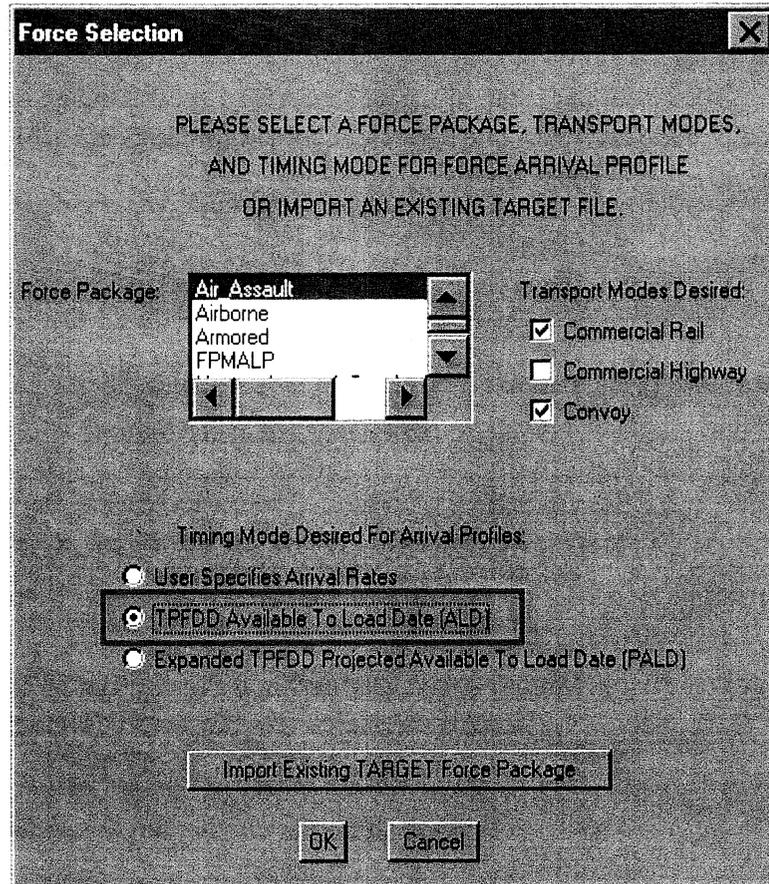

Figure 3: Deterministic Cargo Arrival — Option 2
1. When creating a new scenario or modifying an existing scenario, make the following series of choices on the PORTSIM menus and windows (Figure 3):